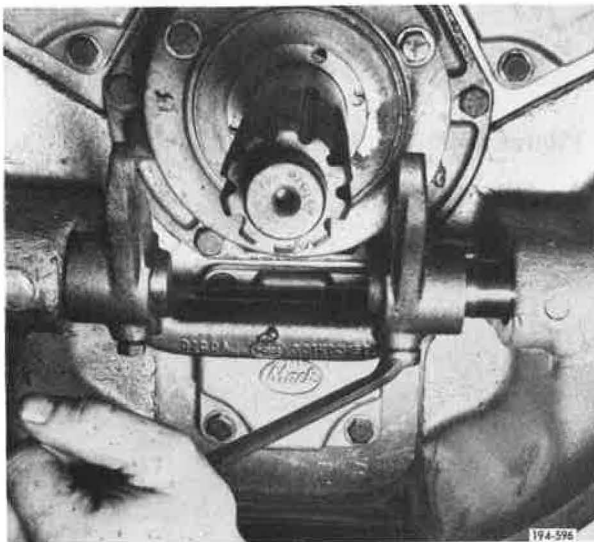

Figure 5-226. Removing Setscrews
3. Remove clutch release yoke tapered setscrews. See Figure 5-226.